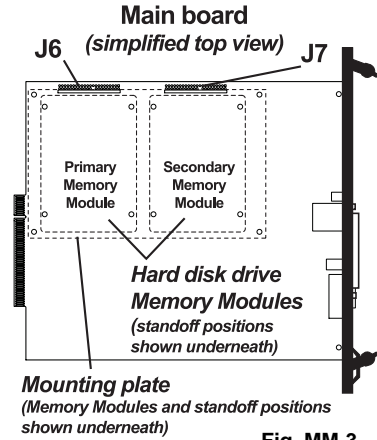

Fig. MM-3
- Screw two of the standoffs through the drive mounting plate into the top-right and bottom-right threaded holes with the spacers. Screw two of the screws that came with the hard drive into the remaining holes (**Fig. MM-3**).